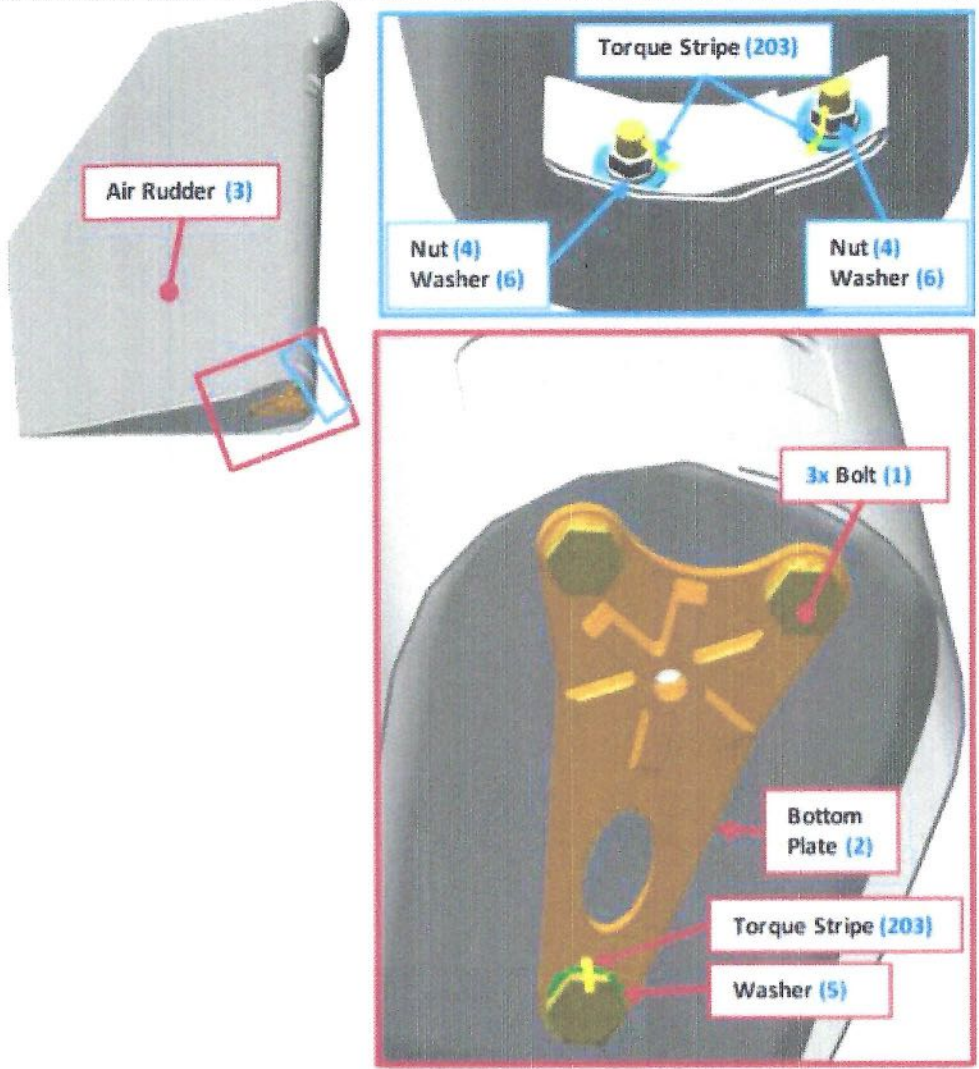

Figure 2
- CM 4. Remove air rudder torque plate and hardware. Replace hardware if corroded. See figure 2.